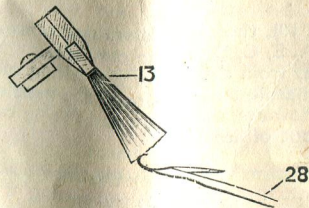

Fig. 11
(Fig. 11) shows the relative position of the Latch Opener (13) to the needle, its object is to open and to keep open the needle latches to receive the yarn in their hooks, otherwise the latches would be liable to swing close after passing over the completed stitch. They are correctly adjusted when the machines leave our works, and must be set so that the needle hook passes through the brush more to the back than the front of it.